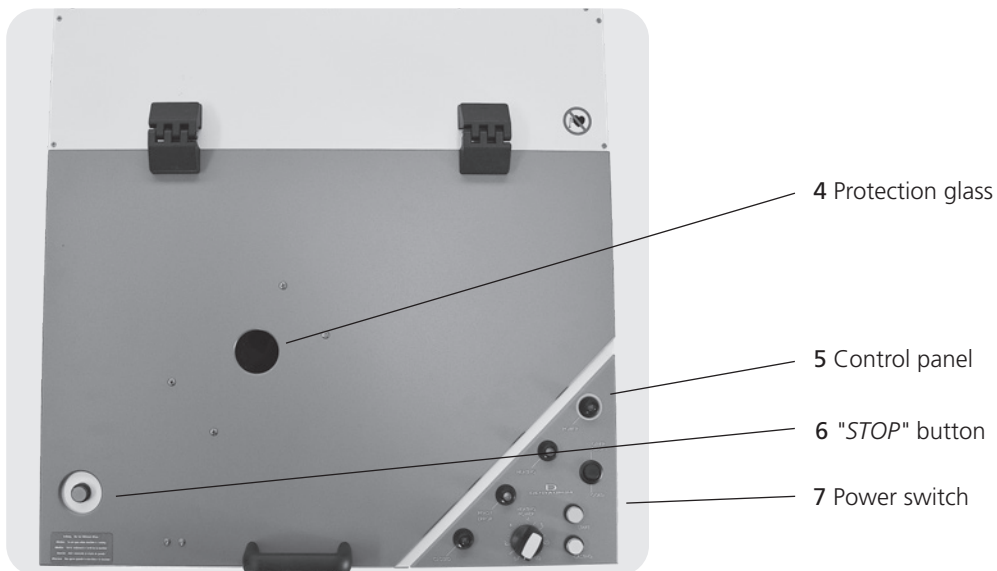

Fig. 2: Top view
- The melting process can start when the lid is closed and observed through a protective glass integrated into the lid (Fig. 2, Pos. 4).
- Switch on the machine via the power switch (Fig. 2, Pos. 7).